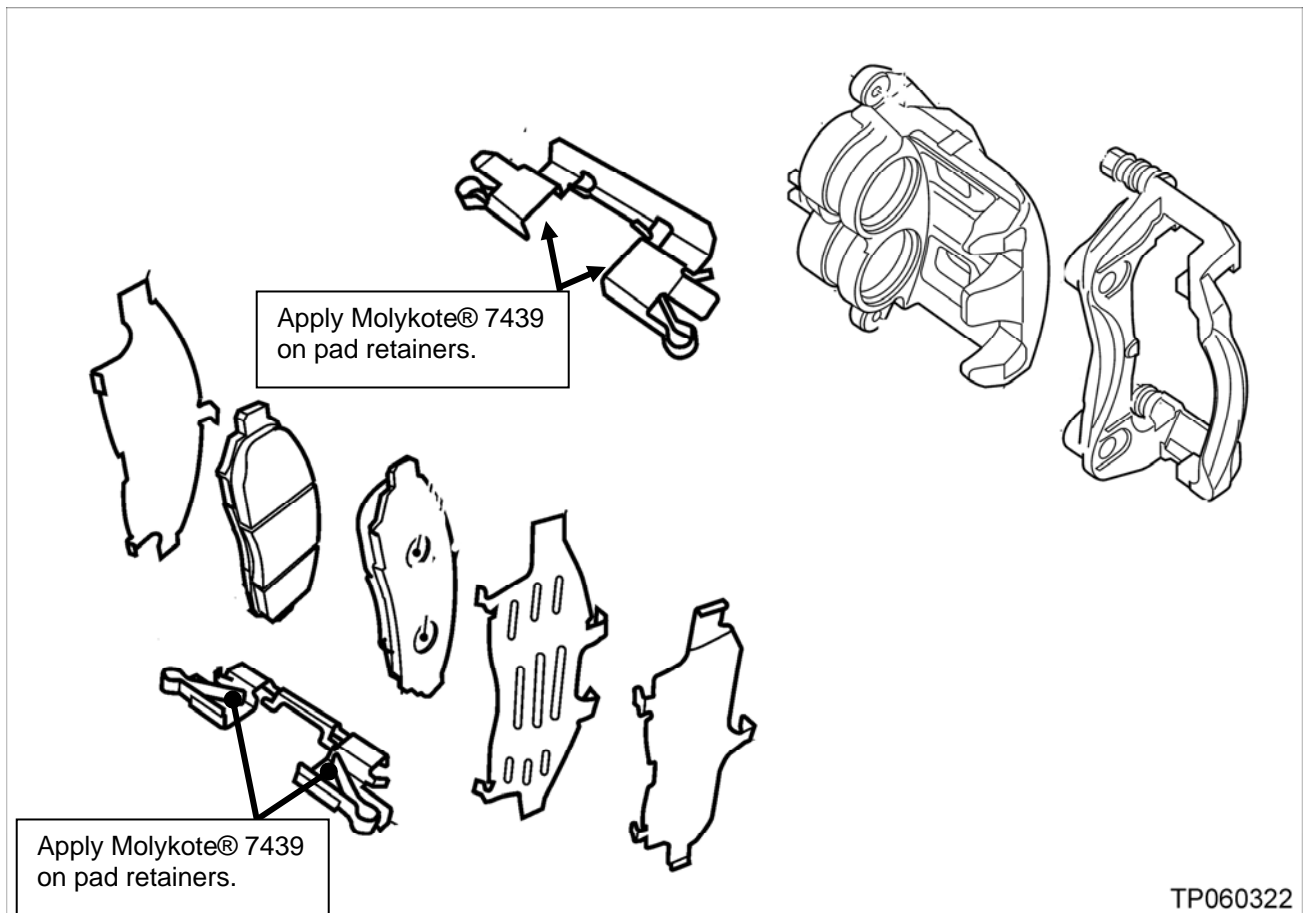

Figure 1
2. Apply Molykote® 7439 (copper) grease onto the front brake pad retainers in the areas shown in Figures 1 and 2.